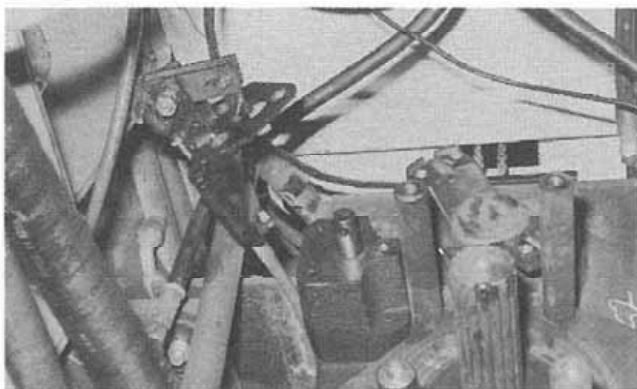

Figure 6:
8. Detach the shift cable and bracket assembly from the detent block and fork rod of the transfer case (Fig. 6), then secure it close to the frame using a piece of wire.